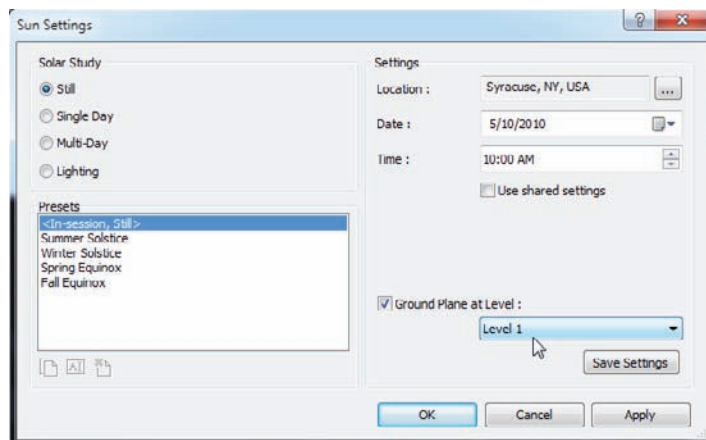

FIGURE 19.3 The Sun Settings dialog
15. Make sure the Still choice is selected for Solar Study, and choose your geographic location for the settings Date, Time, and Location. (I chose Syracuse, NY, and my birthday [05/10 is the default].) You can change these settings if you would like (see Figure 19.3).